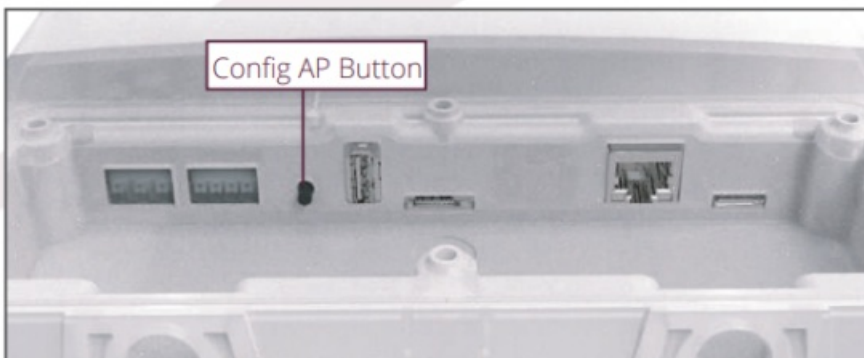

Figure 2 – Configuration button
1. Press and hold the "Config AP" button for 7 seconds (Figure 2). On release, the Network LED will turn yellow.